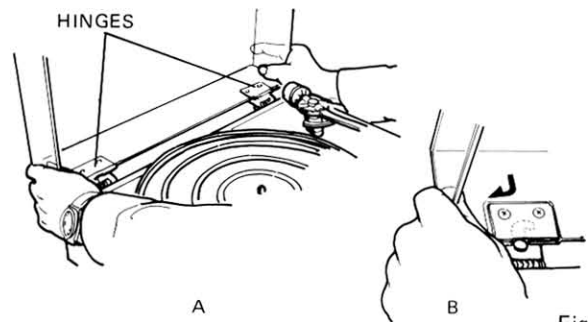

Fig. 14
1. Hold dust cover vertically (Fig. 14-A).
3. Push dust cover about 5mm to the left (as seen front to secure hinges (Fig. 14-B).